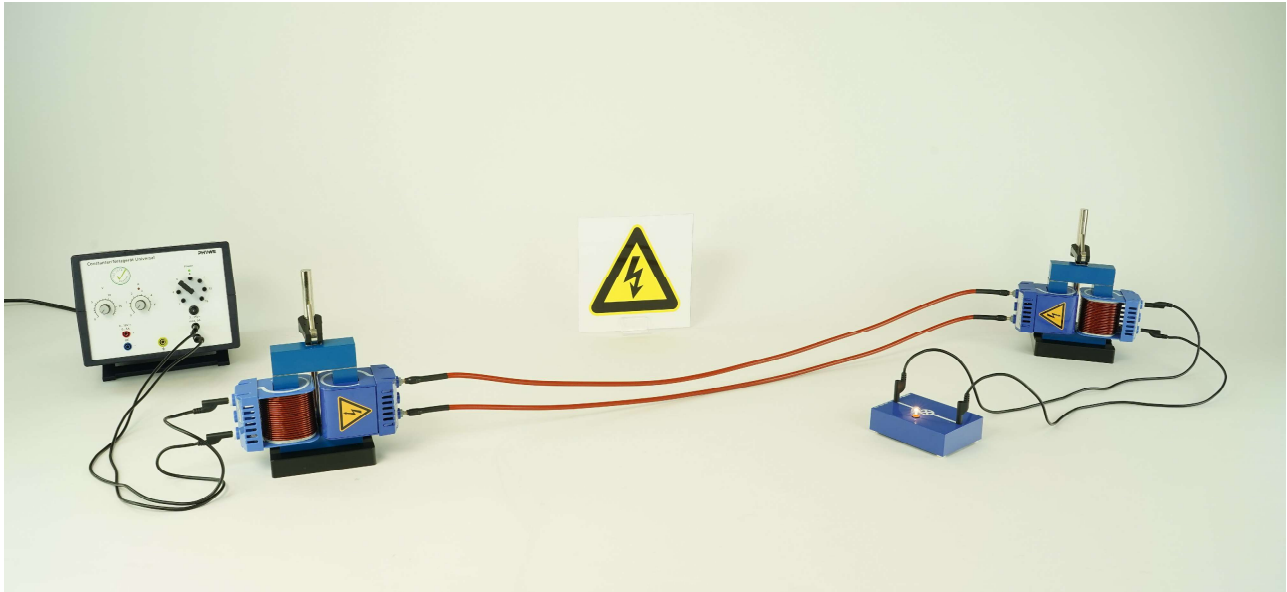

Fig. 2
- Setup the experiment according to Fig. 2: